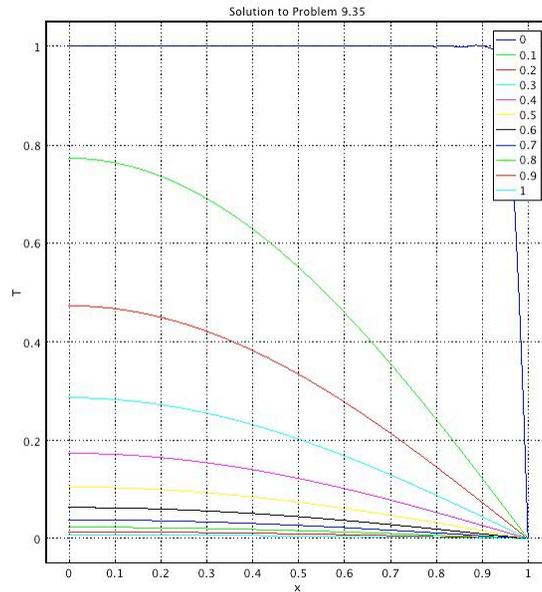

Figure 9-13. Solution of heat transfer problem, Eq. (9.34)
Step 8: examine the solution. Right click Data Sets and choose Parametric Extrusion 1D. The Settings window will list the times at which the solution will be plotted. Select the 1D Plot Group and change the Plot Settings to reflect what we have actually done, x, T, Solution to Problem 9.35 and click on the plot icon to get the new plot. To get the legends for the graph, click on the Line Graph subnode, choose Legends (near the bottom) and click on the Show legends box. Then replot to obtain Figure 9.13. Note that it isn't possible to have the temperature be both 0 (the boundary condition) and 1 (the initial condition) at the point $x = 1, t = 0$, and this introduces a small perturbation near that point. This perturbation quickly dampens out in time, though. It is really a manifestation of an improperly posed mathematical problem rather than an incorrect method, because such a discontinuity is impossible to create. This graph can be compared to graphs in your textbook to validate the computer solution.